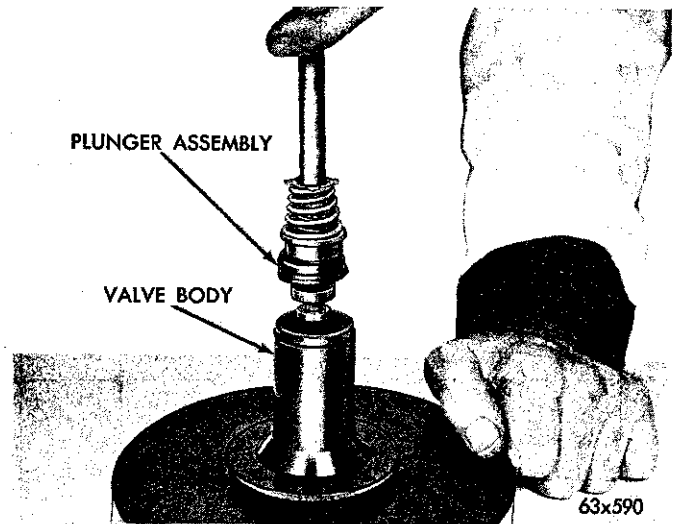

Fig. 21—Removing or Installing Rod and Valve
(11) Holding the diaphragm housing, remove the rod and valve assembly (Fig. 21). Remove the rubber valve poppet from the rod.
(1) Press a new seal into the rear housing until the seal is flush with the housing.
(2) Install the front seal and retainer.
(3) Install the reaction disc into the diaphragm plate.
(4) Install the valve poppet and the rod and valve assembly.
(5) With the valve housing supported on a flat horizontal surface, press down on the plunger rod and insert the lock into the housing and valve assembly.
(6) Dip the diaphragm in mineral spirits and install it on the plate and valve body.
(7) Install the diaphragm and valve body into the rear housing (Fig. 21).
(8) Install the master cylinder push rod and retainer.
(9) Supporting the rear housing on blocks or a vise, install the return spring with the small end toward the front of the booster assembly.
(10) Place the front housing on the return spring and compress the spring (guiding the master cylinder push rod through the front seal).
(11) Align the scribe marks and install the housing attaching screws finger tight and then progressively tighten.
(12) Install the air filter, silencer and retaining ring.
(13) Install the master cylinder on the brake booster assembly and tighten the attaching nuts.